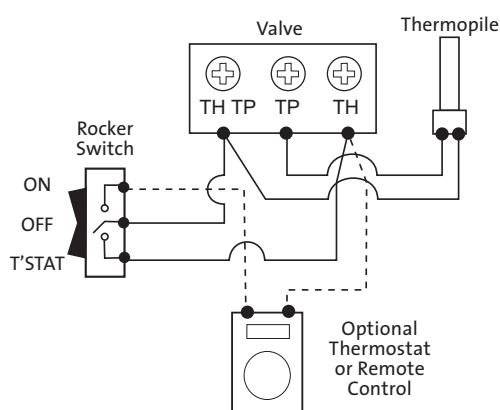

Figure 18. Wiring Diagram for optional thermostat.
2. Connect the other thermostat lead to the TH terminal on the valve. DO NOT DISCONNECT ANY WIRES. See fig. 18.